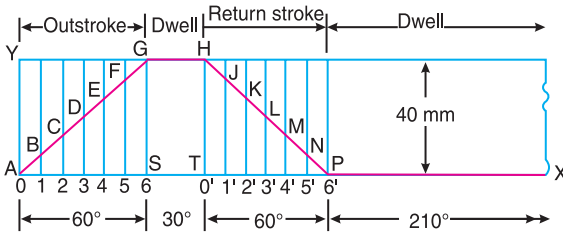

Fig. 20.10
First of all, the displacement diagram, as shown in Fig. 20.10, is drawn as discussed in the following steps :
2. Draw vertical line AY equal to the stroke of the follower (*i.e.* 40 mm) and complete the rectangle as shown in Fig. 20.10.
5. The complete displacement diagram is shown by $AGHPX$ in Fig. 20.10.